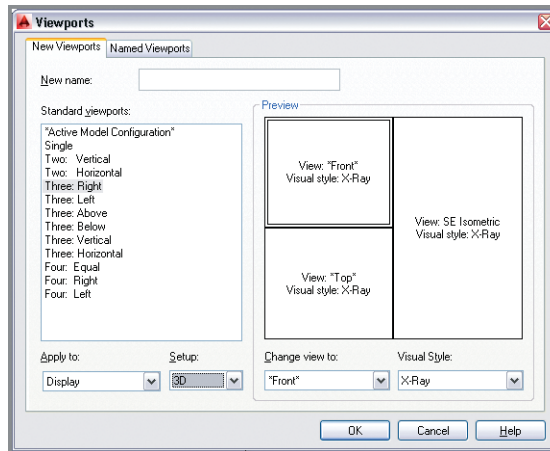

FIGURE 16.8 Configuring viewports
2. Type **VPORTS**, and press Enter. In the Viewports dialog box that appears, select **Three: Right** in the Standard Viewports list. Open the Setup drop-down menu, and select **3D** (see Figure 16.8). Click OK.